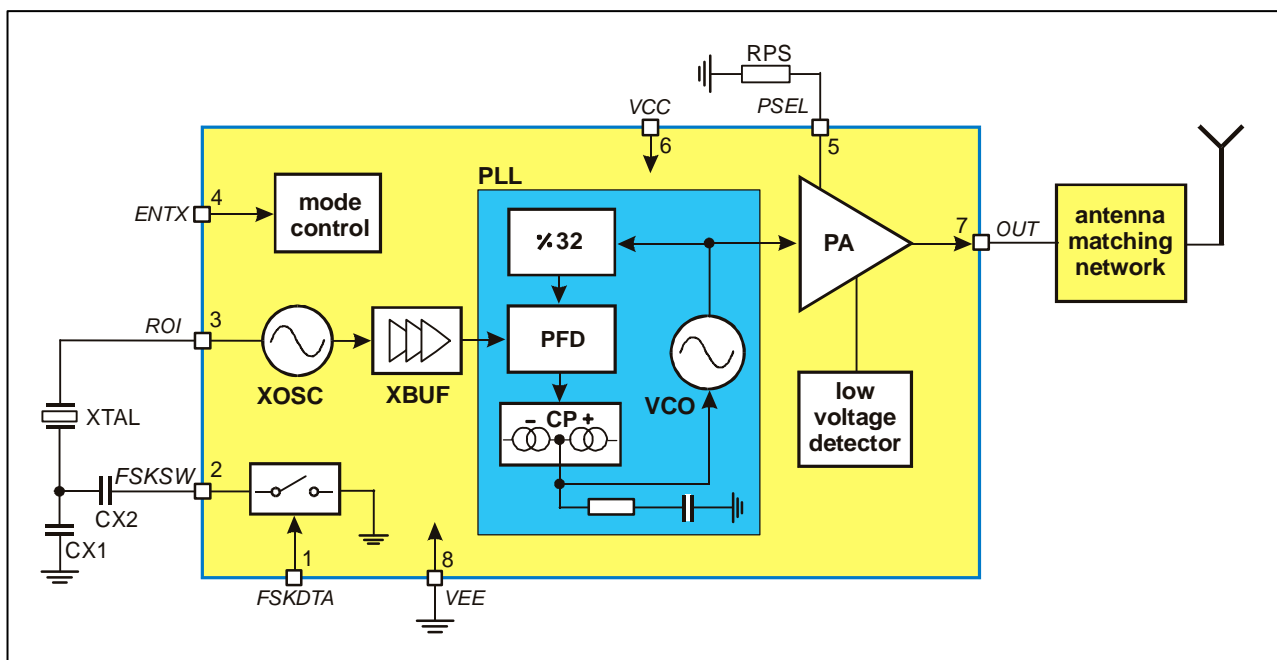

Fig. 1: Block diagram with external components
As depicted in Fig.1, the TH72001 transmitter consists of a fully integrated voltage-controlled oscillator (VCO), a divide-by-32 divider (div32), a phase-frequency detector (PFD) and a charge pump (CP). An internal loop filter determines the dynamic behavior of the PLL and suppresses reference spurious signals. A Colpitts crystal oscillator (XOSC) is used as the reference oscillator of a phase-locked loop (PLL) synthesizer. The VCO's output signal feeds the power amplifier (PA). The RF signal power P_{out} can be adjusted in four steps from $P_{out} = -12$ dBm to +11 dBm, either by changing the value of resistor RPS or by varying the voltage V_{PS} at pin PSEL. The open-collector output (OUT) can be used either to directly drive a loop antenna or to be matched to a 50Ohm load. Bandgap biasing ensures stable operation of the IC at a power supply range of 1.95 V to 5.5 V.